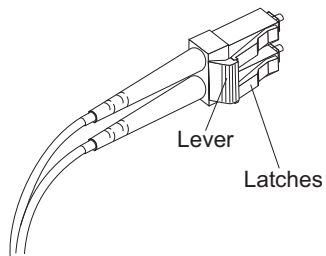

Figure 34. LC-LC Fibre Channel cable lever and latches
1. On the end of the LC-LC cable that connects into the SFP module or host bus adapter, press and hold the lever to release the latches, as shown in Figure 34.